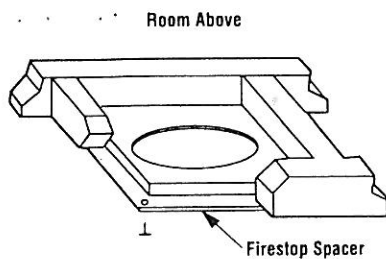

Figure 23
**Note:** If there is a room above ceiling level, firestop spacer must be installed on the bottom side of the ceiling. If an attic is above ceiling level, firestop spacer must be installed on top side of ceiling joist (Figures 23 and 24).